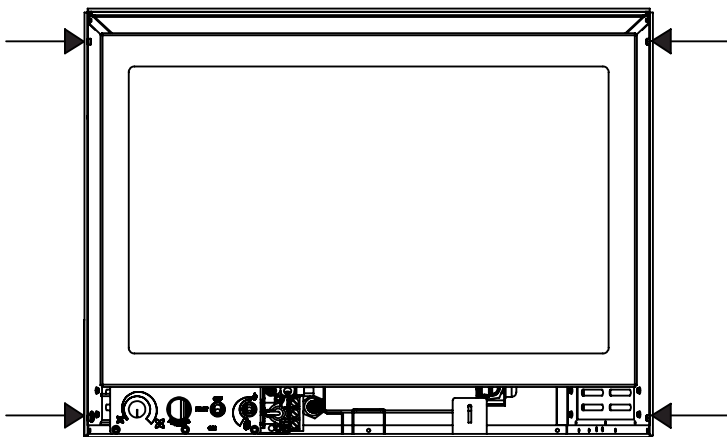

Figure 51: Bushing Locations.
Lift the face upright in front of the fireplace with the four (4) hooks pointing towards the fireplace. Slide the hooks over their corresponding bushings (see Figures 51 & 52). Ensure the hooks are secure before releasing the surround. The surround should be wiped with a damp cloth periodically.
1. Attach the left, right, top/bottom brackets onto the safety screen using a T20 screwdriver and the supplied sixteen (16) #8 T20 screws (see Figure 51). Do not over-tighten the screws, doing so could cause them to strip out of the screen frame.